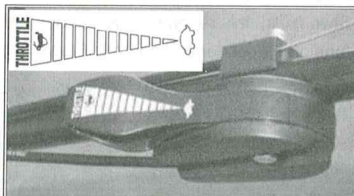

Fig.6B
3.1 When starting the engine and operating, turn throttle choke lever to "  " position. (Fig.6B)
2. When starting a cool engine, turn the throttle choke lever to "  " position. (Fig.6B)